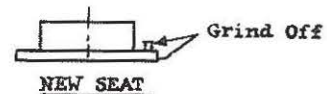

FIG. 13
- b. New Valve Spring Cap. The new cap may be used on engines with old style spring. However, care should be taken that the cap rests flat on the end coil of spring. If a rocking condition exists follow rework instructions shown in Fig. 13.
- c. New Valve Spring Seat. The new seat is only released for the 3, 4, 6-71 engines and can only be used on those engines with cylinder heads that include the $\frac{1}{8}$ " drilled hole for seating the pin, unless the pin on the new seat is ground off, as shown in rework instructions, Fig. 13.